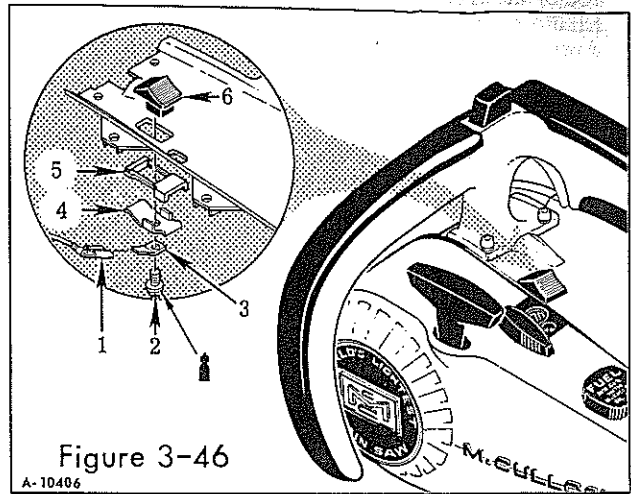

Figure 3-46
2. Disconnect the switch lead (1, Figure 3-46). Remove the screw (2) which holds the switch together.